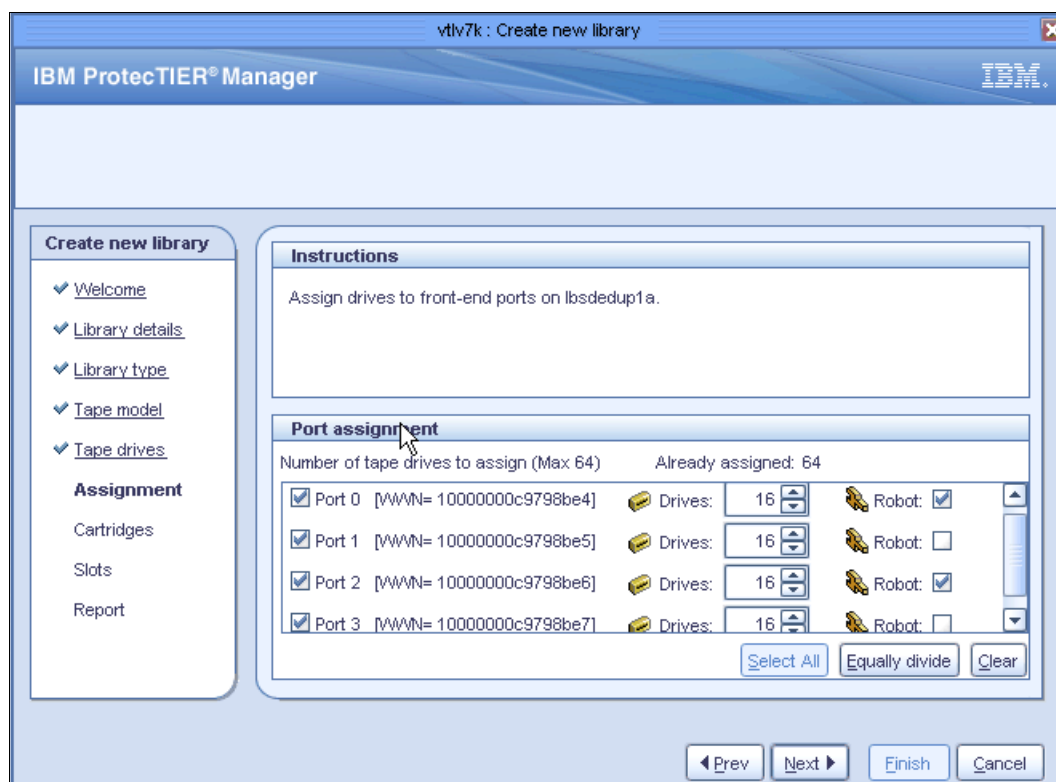

Figure 3-6 Create new library - Port assignment window
8. Click **Next**. The Port assignment window opens (Figure 3-6).
9. Click **Next**. If a second node exists in your cluster, the Assignment (2) window opens. Complete the same steps as you did in Figure 3-6 for your first cluster.